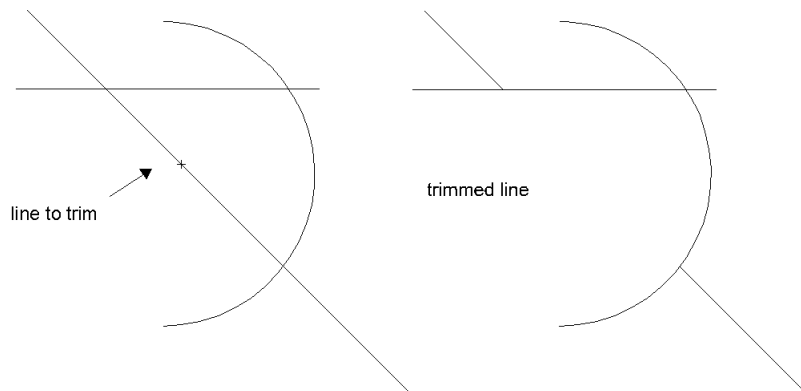

Figure 12.5: Selecting the line segment you want trimmed (removed)
- Click on the line or arc segment that you want trimmed (removed). DataCAD LT searches for the nearest intersections and trims to the intersection points (see Figure 12.5).